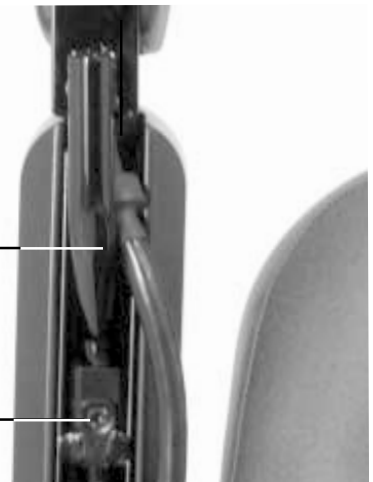

Figure 12. Joystick
1. Use a 3/16-in. hex wrench to loosen the setscrew. See figure 12.